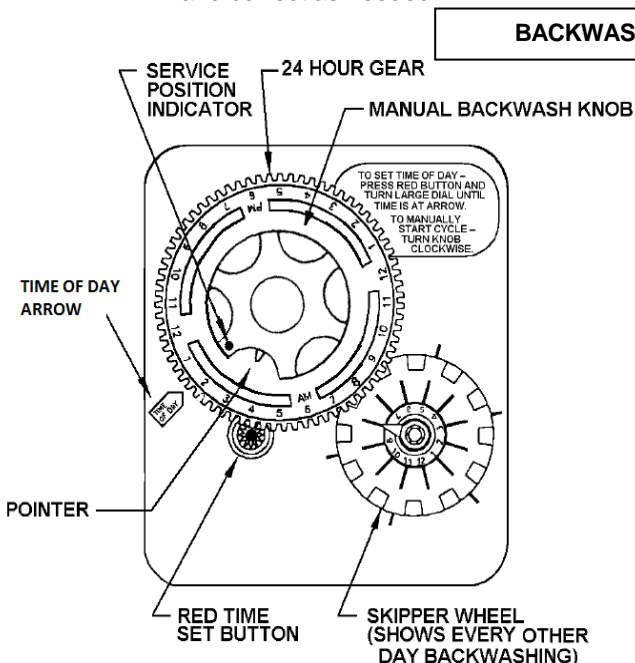
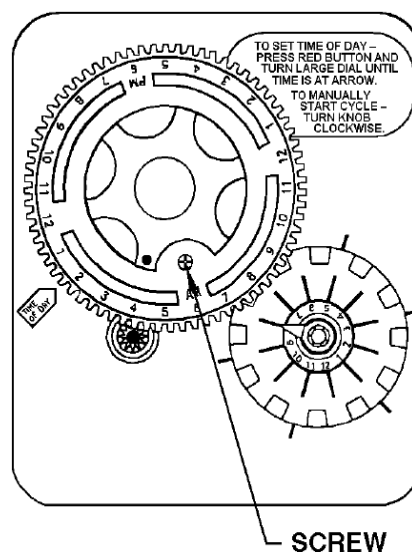

FIGURE 4a: Timer in Service Position
FIGURE 4b: Adjusting Time of Regeneration
Be sure the control valve is in the "Service" position. For OXY2 models the service indicator should point to the time of day arrow (See figure 4a below).
STEP 12: For the OXY2 set the Timer Control (Figure 4a) by rotating the Skipper Wheel (Figure 4a) so the red pointer is directly over day 1. Select the days when backwashing will occur by sliding the metal tabs in or out. IN indicates no backwashing will occur on that day, OUT indicates that backwashing will occur on that day. **Factory setting is to initiate backwash every third day.**
STEP 13: Set the current time of day. For the OXY2 start by depressing the red Time Set Button (Figure 4a) and turning the 24 Hour Gear (Figure 4a) to the desired time (note AM and PM).
- b) Locate three screws (Figure 4b, page 6) behind the Manual Backwash Knob (Figure 4a, Page 6) by pushing the red Time Set Button (Figure 4a, page 6) and rotating the 24 Hour Gear (Figure 4a, page 6) until each screw appears in the cut out portion of the Manual Backwash Knob.
- d) Continue depressing the red Time Set Button and rotate the 24 Hour Gear to expose the Regeneration Time Pointer (Figure 4a, page 6) in the cut out portion of the Manual Backwash Knob. Keep the Regeneration Time Pointer visible in the cut out while rotating only the time plate until the desired time of regeneration (note AM and PM) is aligned with the Regeneration Time Pointer. **NOTE: subtract 136 minutes from the desired time for the start of backwash to determine where the Regeneration Timer Pointer should point.**